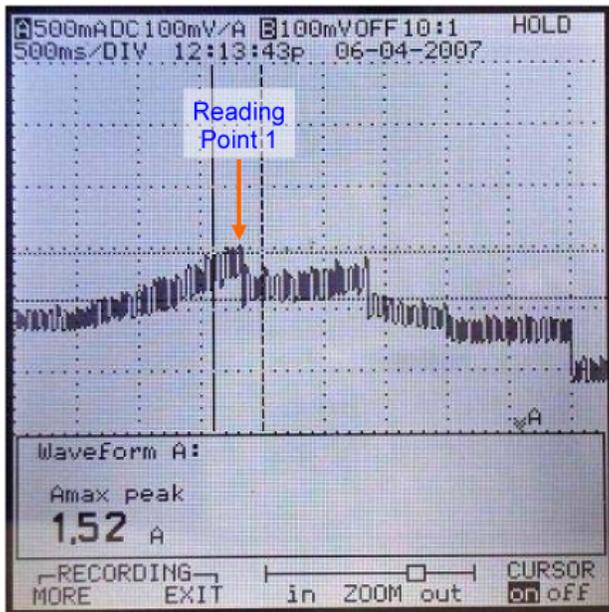

Figure 18. Maximum Current Value of Reading Point 1.
- 8.3 Use LEFT CURSOR and RIGHT CURSOR buttons to position cursors as shown in Figure 18.